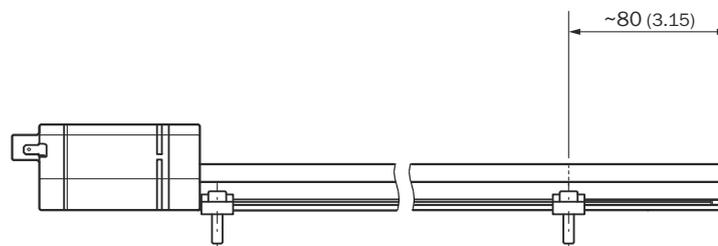

Figure 16: DAX Slider mounting brackets
- a) For the Slider housing design, locate the first mounting bracket directly on the sensor head and the last mounting bracket approx. 80 mm before the end of the slider profile. (see figure 16, page 21).